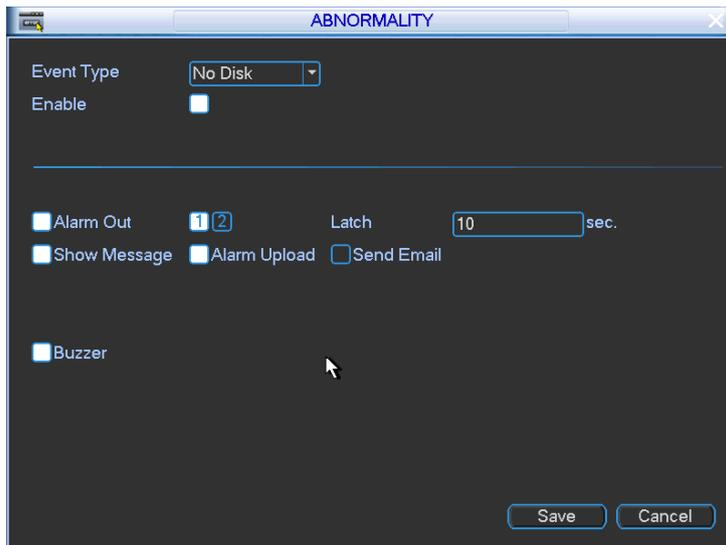

Figure 4-96
- Alarm set: Click alarm set button, the interface is shown as below. See Figure 4-96. (This interface is just like the abnormality setup). Please refer to chapter 5.5.2 for detailed information.